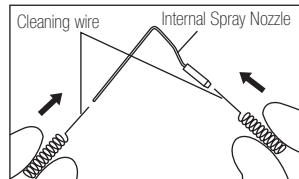

Fig. 10
- 1) Clean Internal Spray Nozzle and External Spray Nozzle (internal and external) by using Cleaning Wire.(Fig. 10,11)
- 2) Insert a Irrigation tube in each Spray Nozzle, and wash it away with clean water.(Refer to 3. (1)(2))